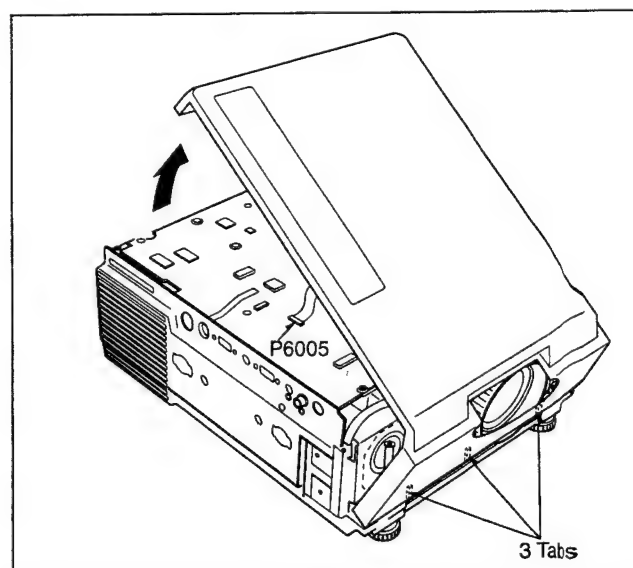

Fig. D4
5. Lift up the Top Cover Ass'y carefully rotating in the direction of arrows shown in Fig. D4 and disconnect a connector P6005.